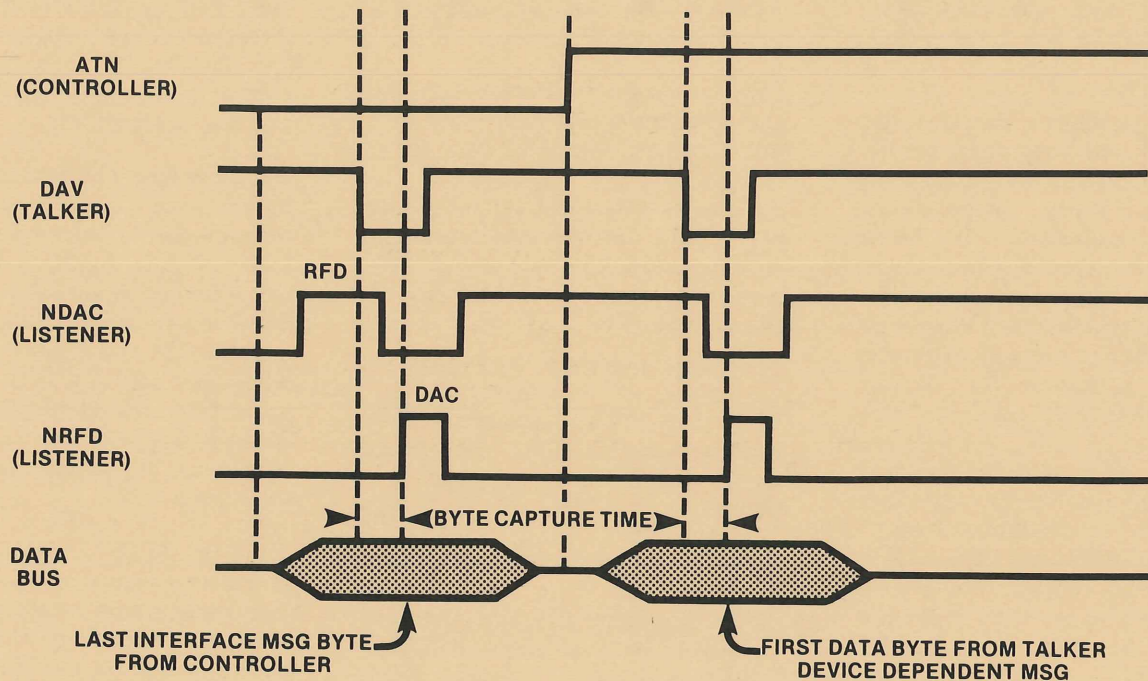
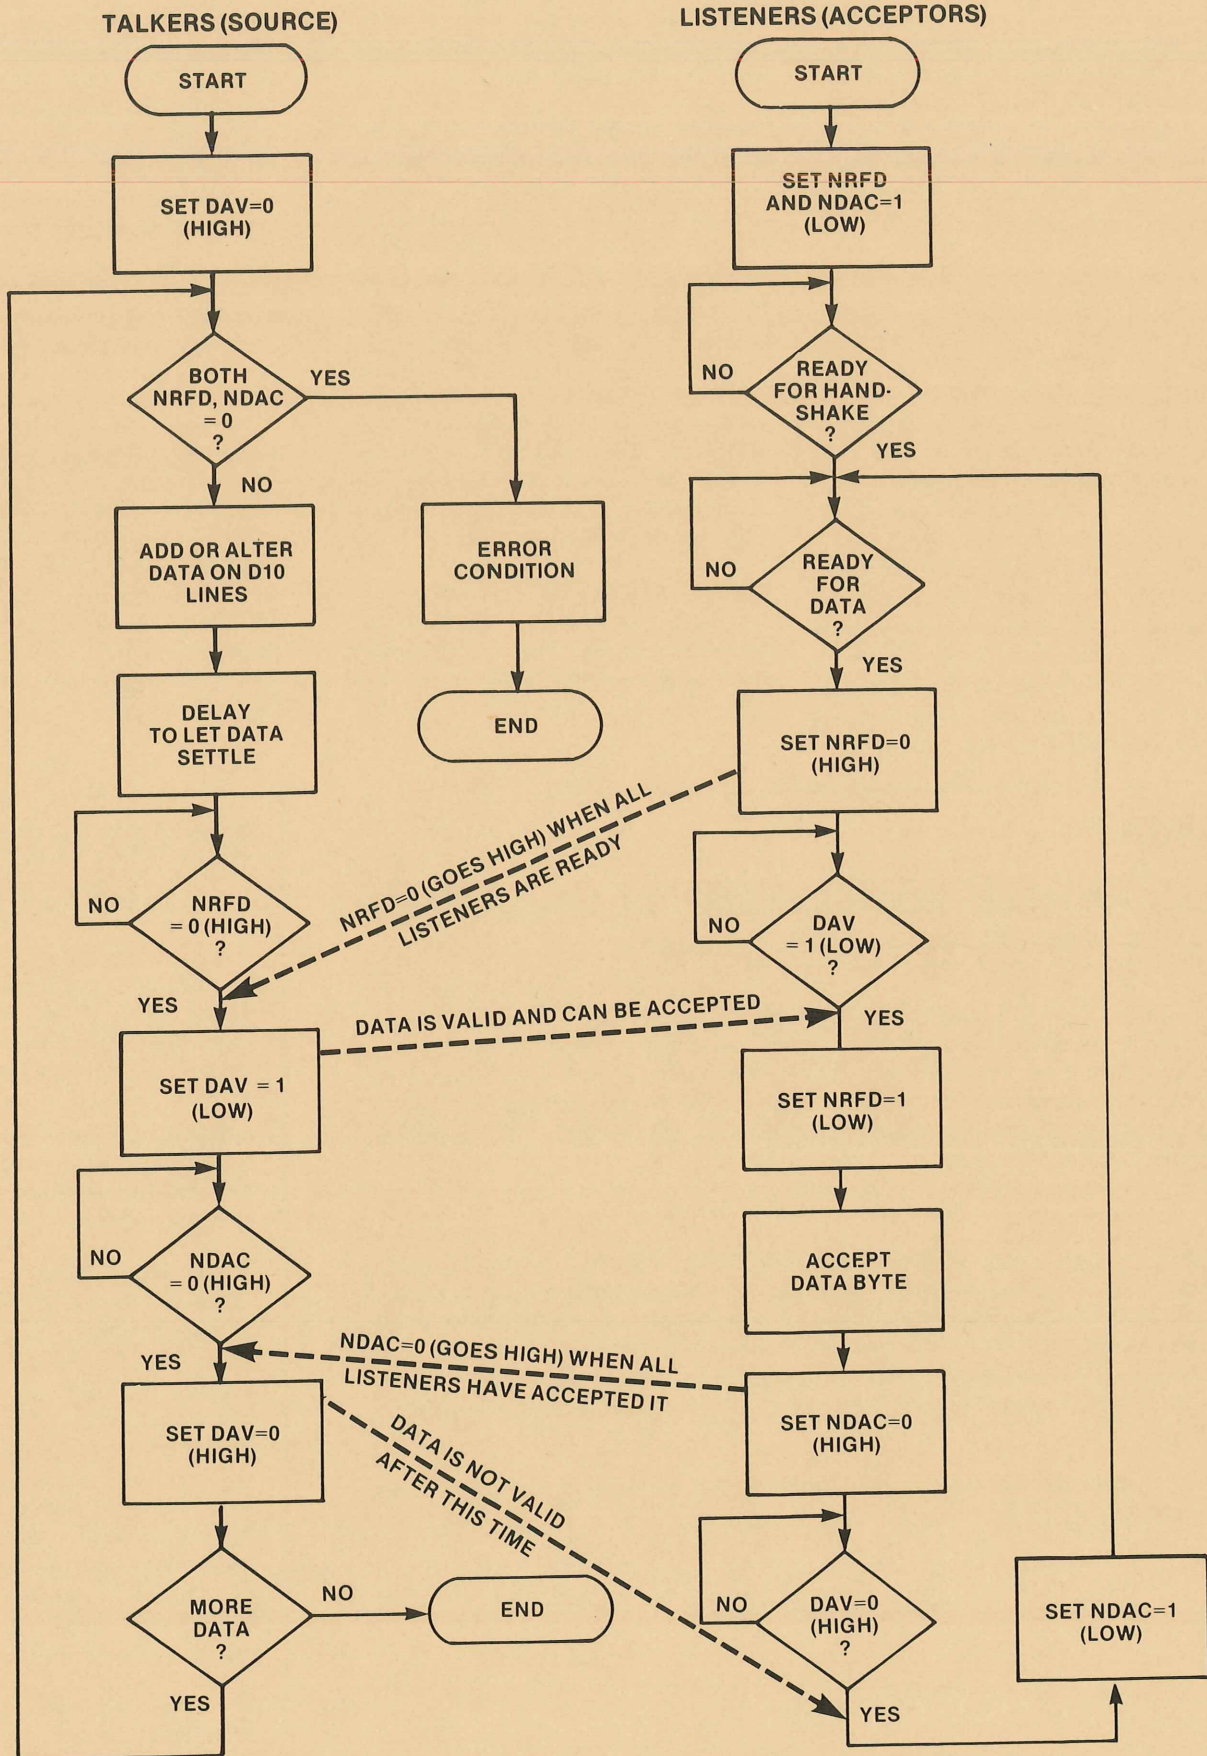

Figure 4. A typical handshake timing sequence (idealized). Byte capture time is dependent on the slowest instrument involved in the handshake.
Figure 5. The handshake flow chart.
**The Transfer Bus (Handshake).** Each time a data byte is sent over the data bus, an enabled talker and all enabled listeners execute a handshake sequence via the **transfer bus**. The transfer-bus signal lines are defined below. Figure 4 illustrates the basic timing relationship between the three signals. The ATN line is shown to illustrate the controller's role in the process. A flowchart for the handshake sequence is shown in figure 5.